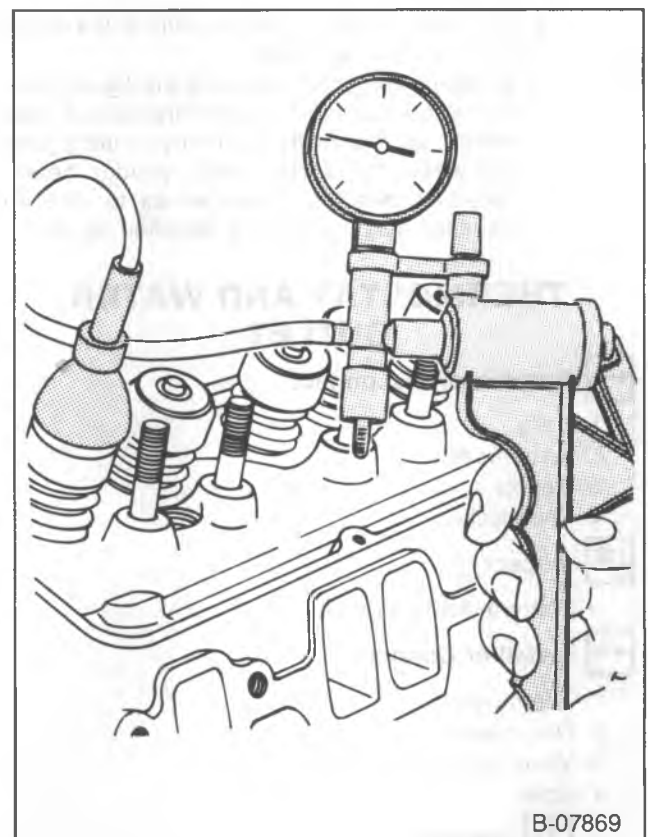

Figure 24—Checking the Valve Seals
- Push a new O-ring seal (23) onto the valve stem. The seal is to be installed on the stem's lower groove. Make sure the seal is flat and not twisted.
- Check each O-ring seal for leakage (figure 24).